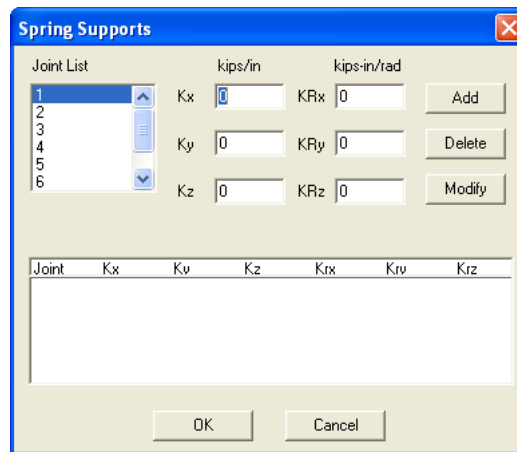

Figure 3-22 Spring Supports dialog box
- From the **Process** menu, select **Spring Supports**. The dialog box of Figure 3-22 appears. Some text boxes may not be available, depending on the structure type selected.